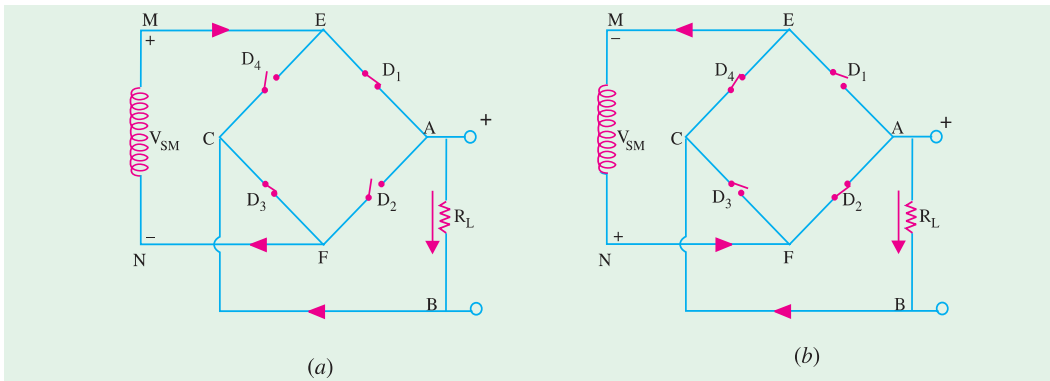

Fig. 55.11
During the positive input half-cycle, terminal M of the secondary is positive and N is negative as shown separately in Fig. 55.11 (a). Diodes D_1 and D_3 become forward-biased (ON) whereas D_2 and D_4 are reverse-biased (OFF). Hence, current flows along $MEABCFN$ producing a drop across R_L .
During the negative input half-cycle, secondary terminal N becomes positive and M negative. Now, D_2 and D_4 are forward-biased. Circuit current flows along $NFABCEM$ as shown in Fig. 55.11 (b). Hence, we find that current keeps flowing through load resistance R_L in the same direction AB during both half-cycles of the ac input supply. Consequently, point A of the bridge rectifier always